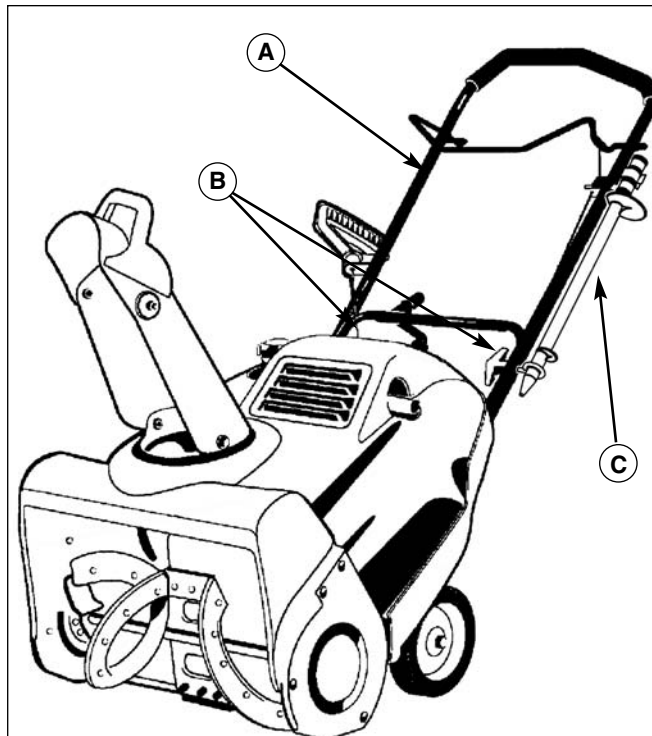

Figure 2. Handles and Clean-out Tool
4. Lift up folding handle to align it with lower handle and tighten the wing knobs securely as shown in Figures 2 and 3.
5. Mount clean-out tool in storage position on handle. Refer to Figure 2.